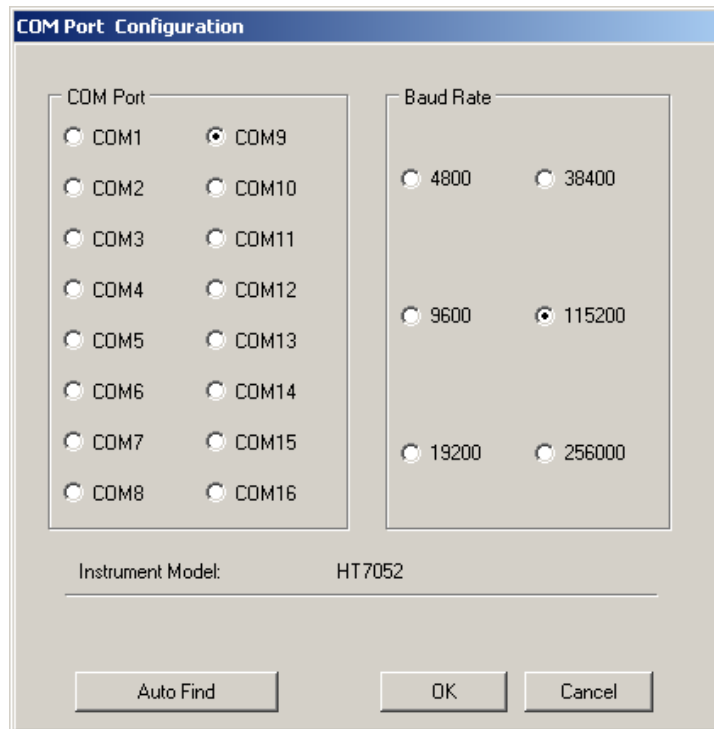

Fig. 49: Connection of the instrument to PC
8. Select the “**Config → COM Port...**” command and click on the “AutoFind” button to start the automatic detection of the instrument (see Fig. 49)